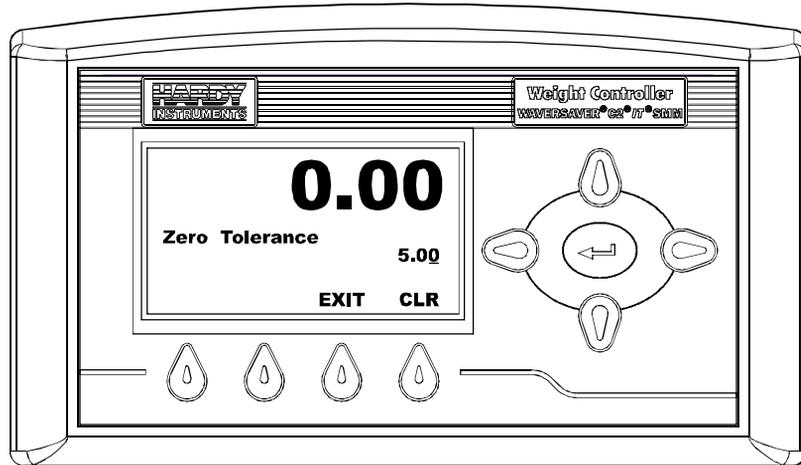

FIG. 78 ZERO TOLERANCE MENU
- Step 2. Use the Left or Right Arrow buttons to move the cursor. When you have placed the cursor in the location you want, use the up or down arrows to enter the number and decimal point you want for this application. In our example we entered 5.00 for our Zero Tolerance. (See Fig. 78)